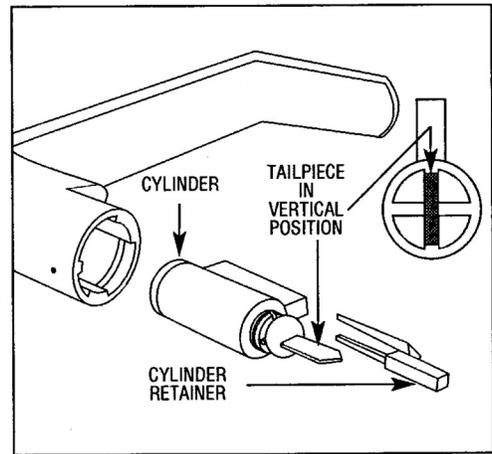

FIG. 18: STANDARD CYLINDER-LEVER, TAILPIECE AND RETAINER.
- a. Install the tailpiece, cylinder retainer and cylinder into the standard lever as shown in Fig. 18.
- Key and tailpiece orientation are incorrect (See Figs. 18 - 20).
- Lever catch not fully engaged. Lock is not centered on door. Check for proper tailpiece and proper orientation of tailpiece (See Figs. 18 - 20).